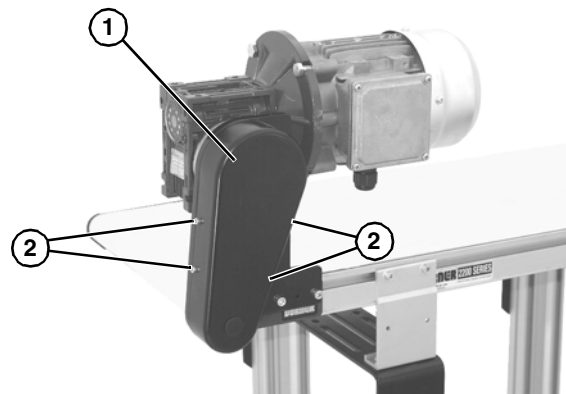

Figure 22
11. Install cover (Figure 22, item 1) with four (4) screws (Figure 22, item 2). Tighten to 35 in-lb (4 N-m).
1. Remove four (4) screws (**Figure 22, item 2**) and remove cover (**Figure 22, item 1**).
4. Install cover (**Figure 22, item 1**) with four (4) screws (**Figure 22, item 2**). Tighten to 35 in-lb (4 Nm).
6. Install cover (**Figure 22, item 1**) with four (4) screws (**Figure 22, item 1**). Tighten to 35 in-lb (4 Nm).